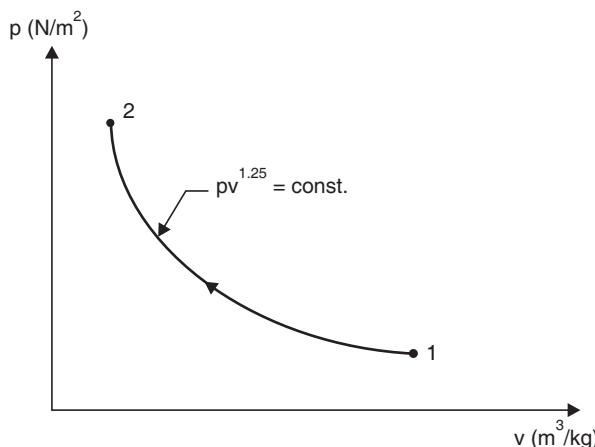

Fig. 3.37
**Solution.** Refer to Fig. 3.37.